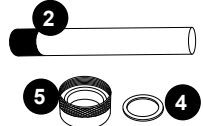

Figure 14.5g
5. Remove the quartz seal compression nut (5) by turning it **counterclockwise**, Figure 14.5e. Use a pair of channel-lock pliers if needed, Figure 14.5f. You will notice that there is a stainless steel compression washer (4) which slides over the quartz tube, save the washer (4) for later use, Figure 14.5g.